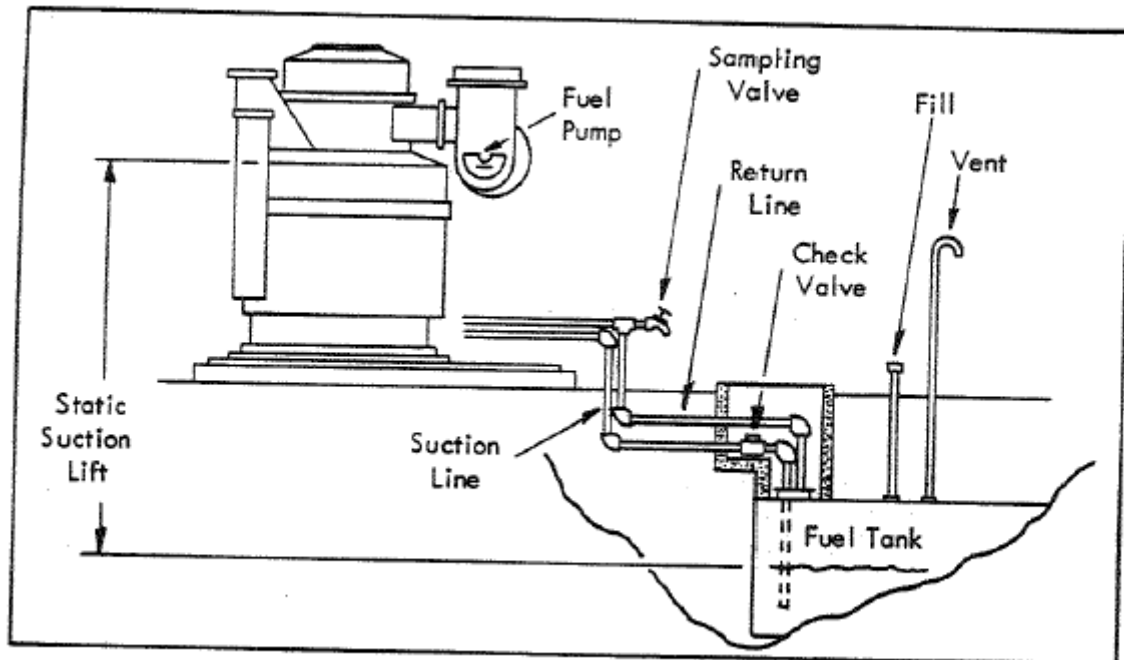

Figure 13, Underground Fuel Tank Installation
10.1.3 Install the fuel tank outside if possible (underground is preferred and as near to the boiler as codes permit. Many local codes designate particular locations. Keep suction lines as short and as free of fittings as possible. (See Figure 13)
10.1.7 Place a sampling tee and valve in the fuel return line and install a vent pipe in the fuel supply tank. (See Figures 13 and 14, also the typical boiler installation drawing, Figure 20.)